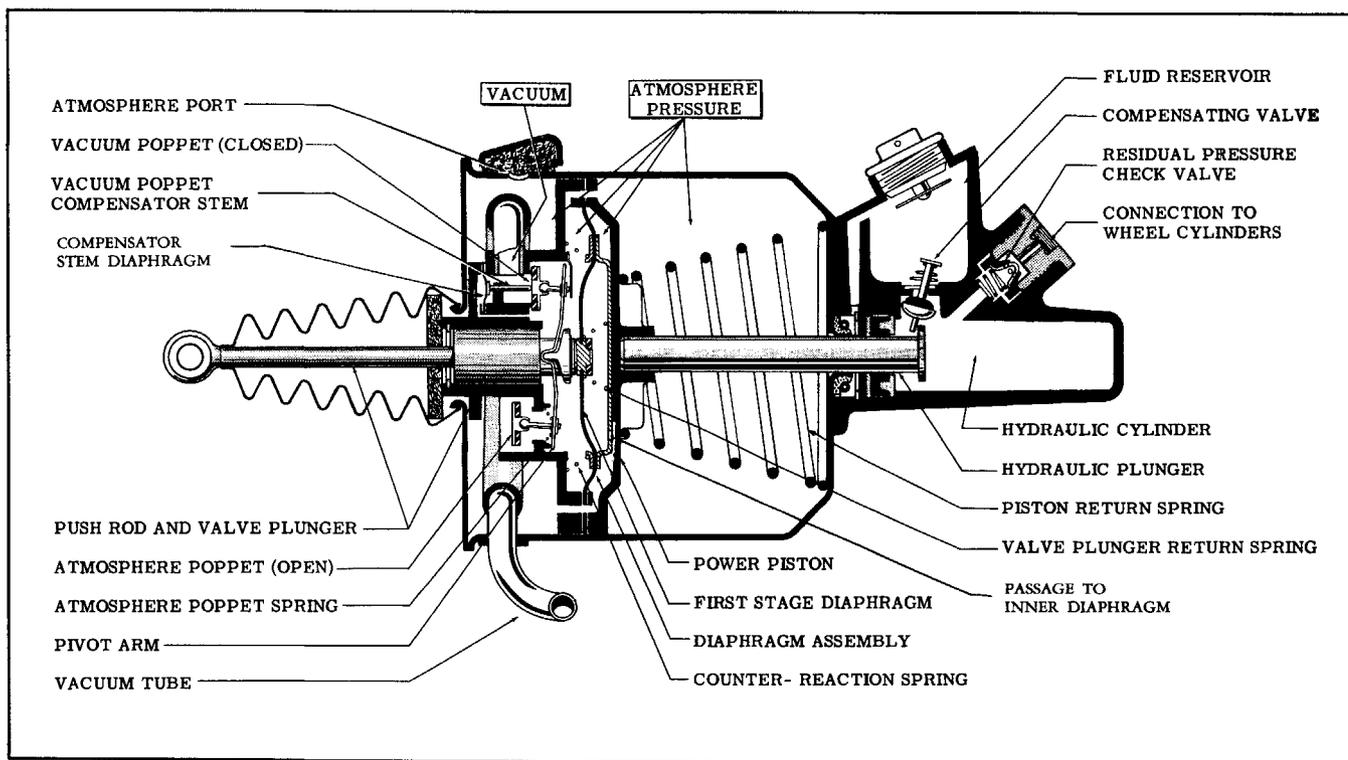

Fig. 5-14 Power Brake in Released Position
### RELEASED POSITION (FIG. 5-14)
**RELEASING (FIG. 5-14)**